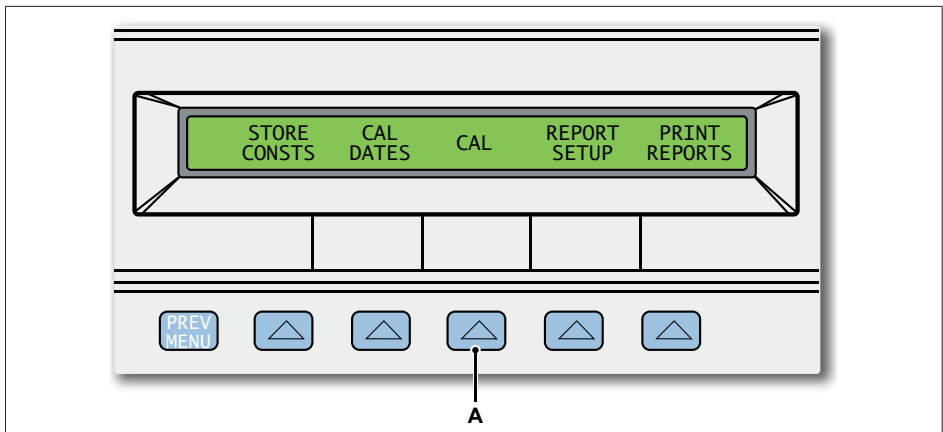

Fig. E.15 Fluke 5522A Calibration information display
4. The Fluke 5522A Calibration information display appears (see Fig. E.15). Select the **CAL** button.